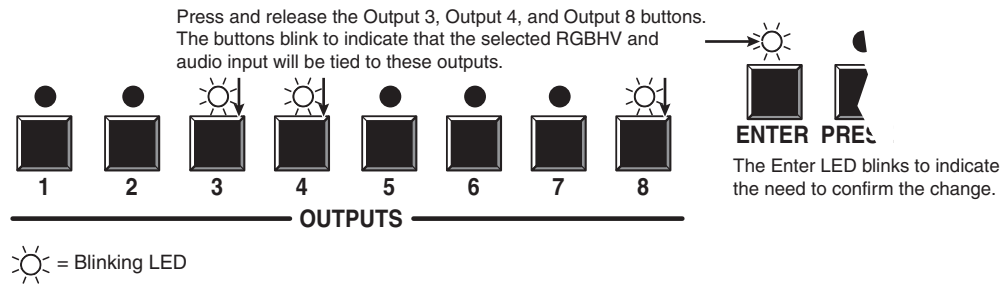

Figure 3-6 — Select the outputs
- Press and release the output 3, output 4, and output 8 buttons (figure 3-6).